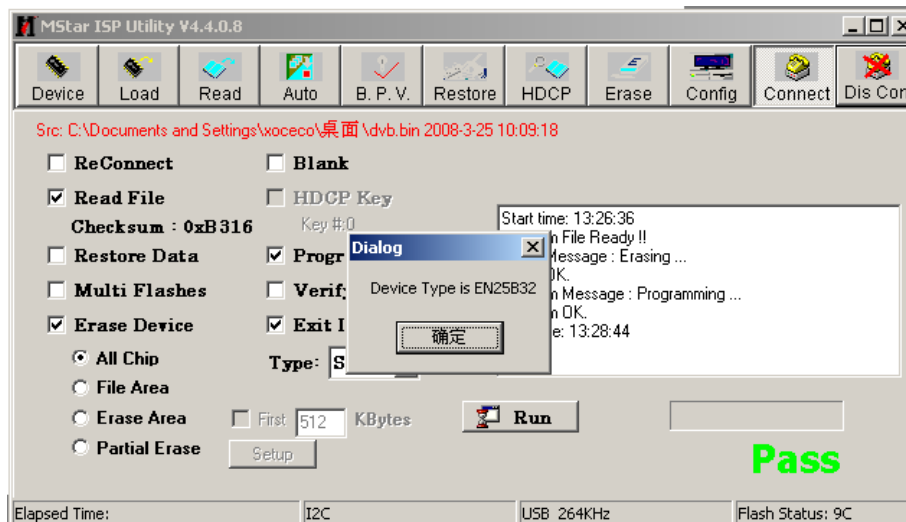

Fig2 Device EN25B52 successful connection
- (1) Main board upgrade: connect a four-pin wire of the ISP writing-device to Debug port(X806) on the main board; Unit upgrade: connect VGA ports of the ISP writing-device and the main board, enter factory menu and set "ISP Mode" to "ON".
- (2) Using Mstar writing-tool on line, click "Connect" menu, if it displays "Device EN25B32" as shown in fig2, the connection is success, if it fails, select "EN25B52" of "Device" manually and press "Connect" again.